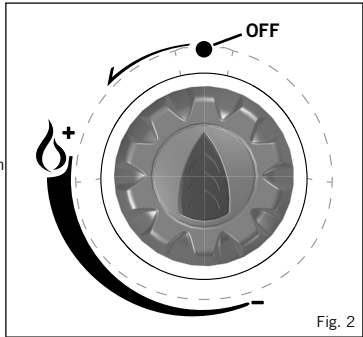

Fig. 2
- Before connecting the gas supply, firstly check that the appliance valve is in the off position by turning the control knob fully clockwise (See Fig. 2).